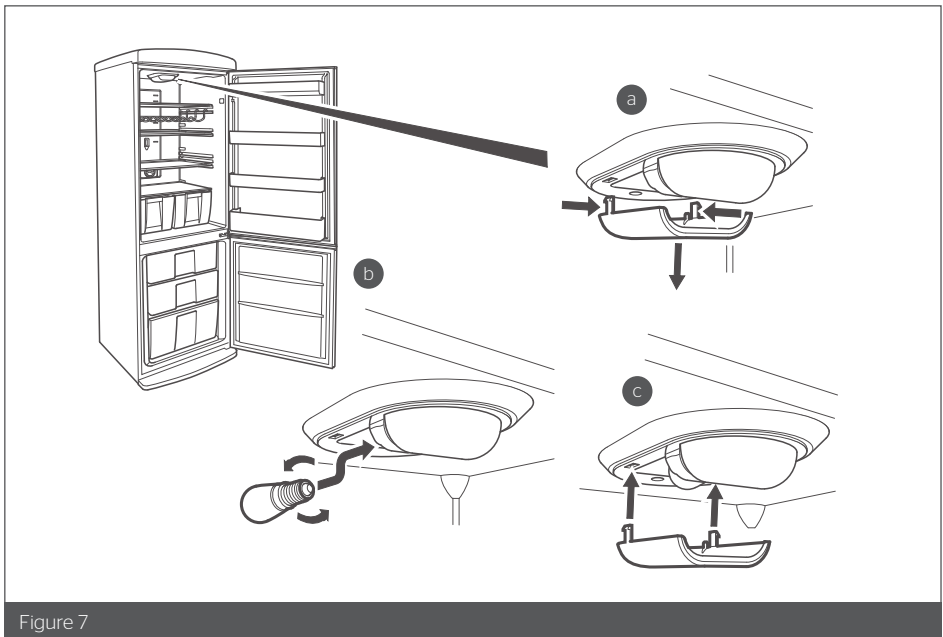

Figure 7
- 2 Apply light pressure to the sides of the light cover and carefully pull downwards. (Figure 7 **a**).
- 3 Unscrew the bulb by turning it clockwise, and remove (Figure 7 **b**).
- 5 Re-fit the light cover, by pushing it upwards until it clicks back into position (Figure 7 **c**).